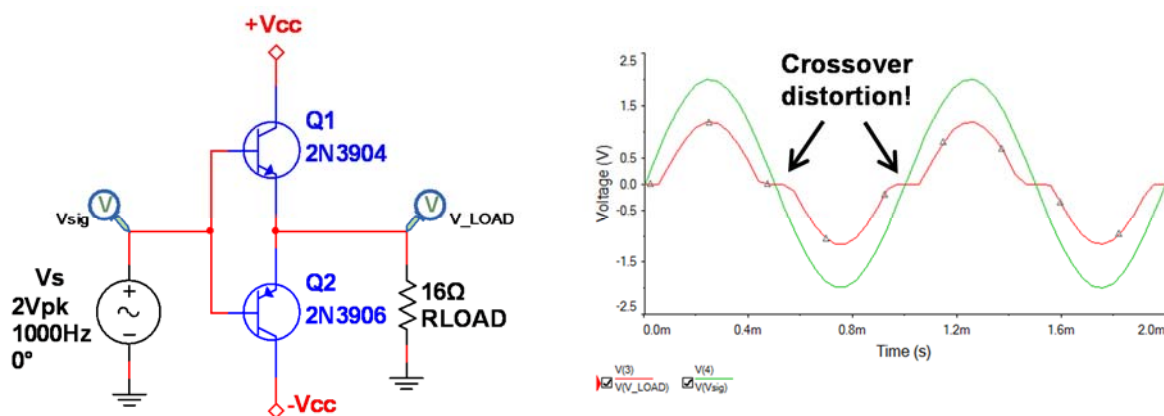

Fig. 3: Class B push-pull stage, where $V_{cc} = 5V$. Your scope measurements should clearly show the crossover distortion.
➤ Task 1a: Build the Class B push-pull stage (see Fig. 3).
➤ Task 1b: Measure crossover distortion (see Fig. 3).
- You should see significant crossover distortion (similar to Fig. 3).